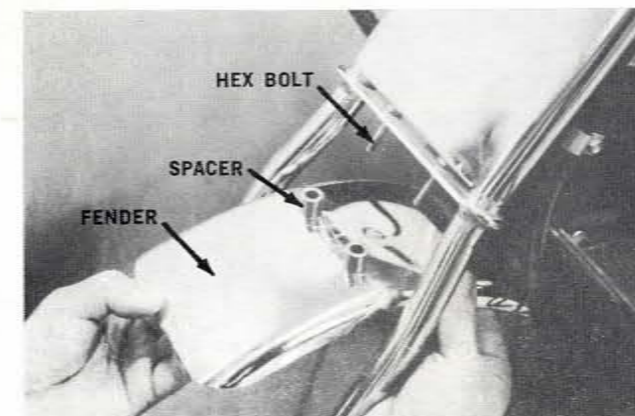

Figure 7
1. Place two (2) hex bolts in fork assembly at fender mounting holes.
2. Set spacers on top of fender and place fender up in position (see Figure 7).
3. Secure fender with two (2) hex nuts.